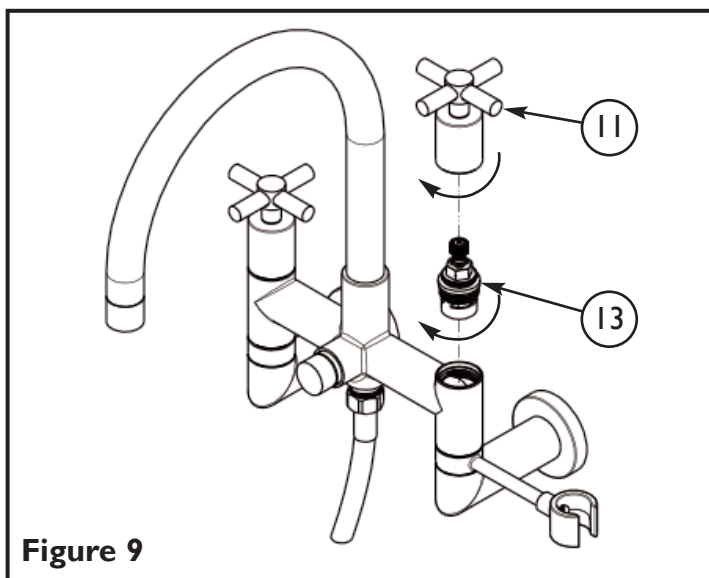

Figure 9
6. Install the CARTRIDGE (13) and torque to 15-20 ft-lbs. See **Figure 9**.
7. Install the HANDLE (11) assembly. See **Figure 9**.